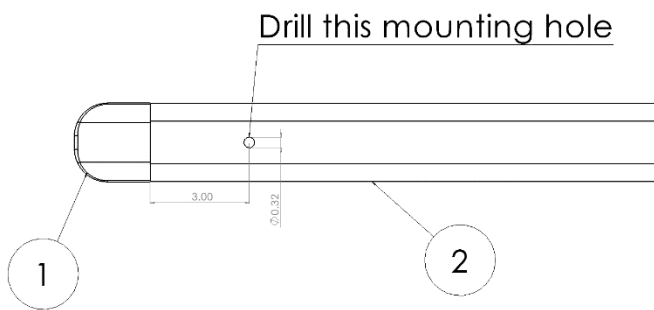

Figure 3.6
You will need to drill mounting holes into the side arms, to do this begin by sliding the pivot casting (1) into one end of the side arm (2) so that the arm and casting are flush with each other. Looking at the back of the pivot casting, if there is not already a hole in the casting, choose a place on the side arm and drill straight through both the side arm and pivot casting using a 5/16" drill bit. Otherwise, mark the location of the hole on the side arm's thinner side wall and drill this hole out. See Figure 3.6 for an example of what this should look like.